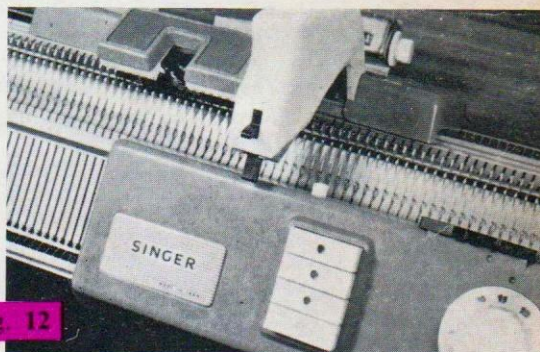

Fig. 12
- The Back cam box can be used by itself for stocking stitch and its derivatives (Fig. 12).